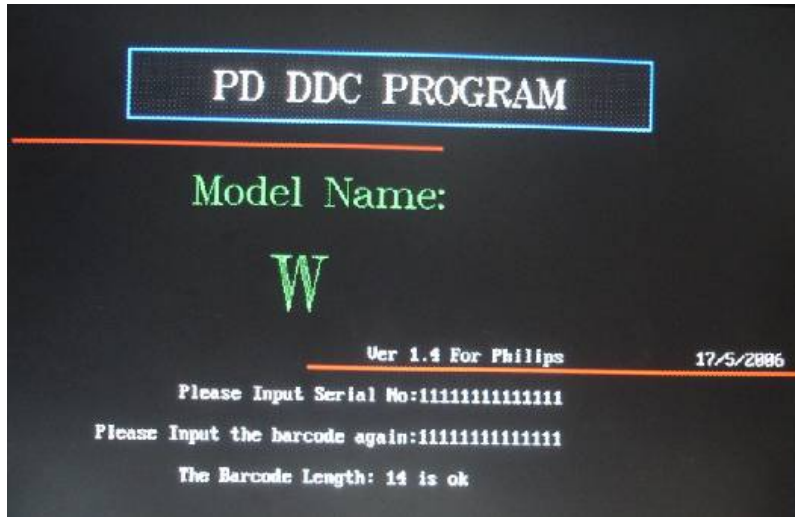

Fig 5
c. If you correctly input, there will appear "The Barcode length: 14 is OK" as shown Fig 5.